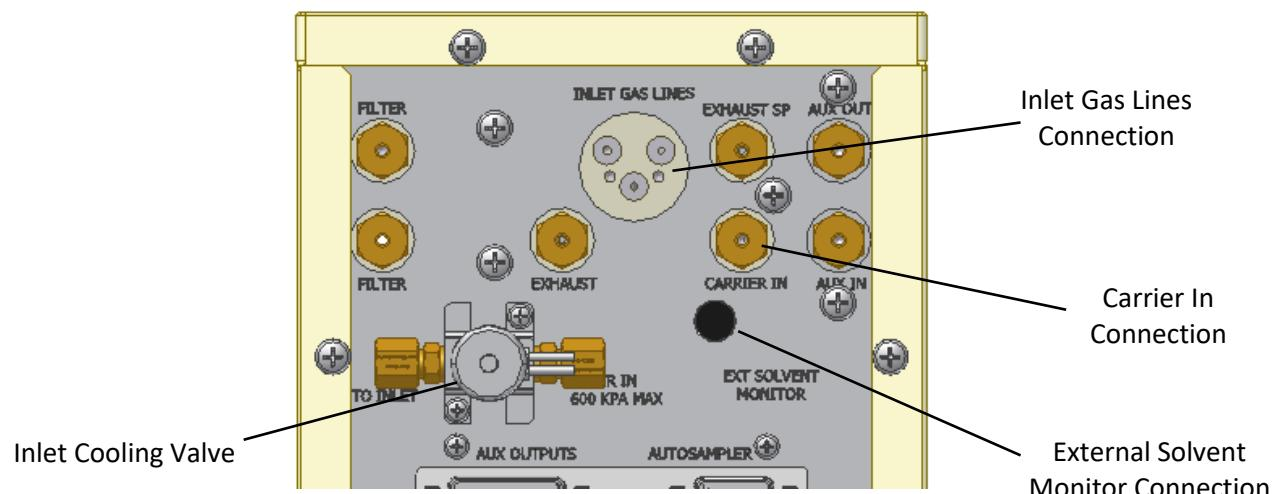
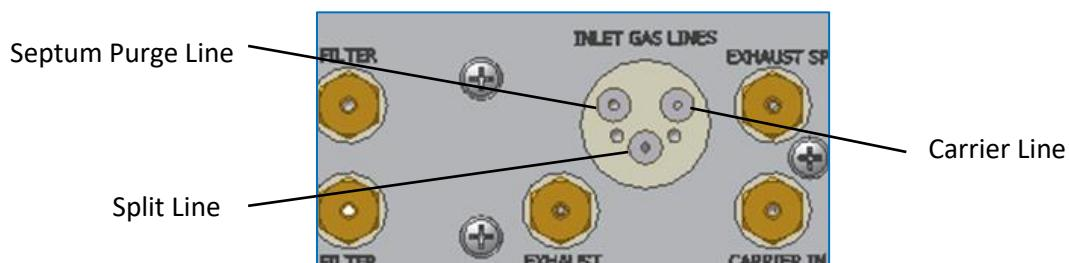

Figure 4.1 OPTIC-4 Rear Panel Gas Lines Connections
Figure 4.2 Inlet Gas Lines Connections Designation
The gas supply can be provided by a cylinder with a pressure regulator or a laboratory gas supply system. The carrier gas supply should be connected to the “**Carrier In**” port on the OPTIC-4 rear panel (Fig. 4.1).
The carrier, split, and septum purge lines of the OPTIC-4 inlet are attached to an EFC connection plate. This plate ensures simple and leak free connections of the inlet gas lines to the OPTIC-4 EFC. Remove blanking plate from the “**Inlet Gas Lines**” port (Fig. 4.1) on the back of the instrument and screw the inlet EFC connection plate instead. Make sure that the sealing o-rings are in place. Check if the gas line designations correspond to the connection designation on the EFC side (Fig. 4.2).
The solvent monitor electrical signal cable should be connected to the "Ext Solvent Monitor" connector on the rear panel of the instrument (Fig. 4.1).
1. Connect the compressed air supply to the “**Air In**” coupling of the solenoid valve (Fig. 4.1) on the OPTIC-4 rear panel.